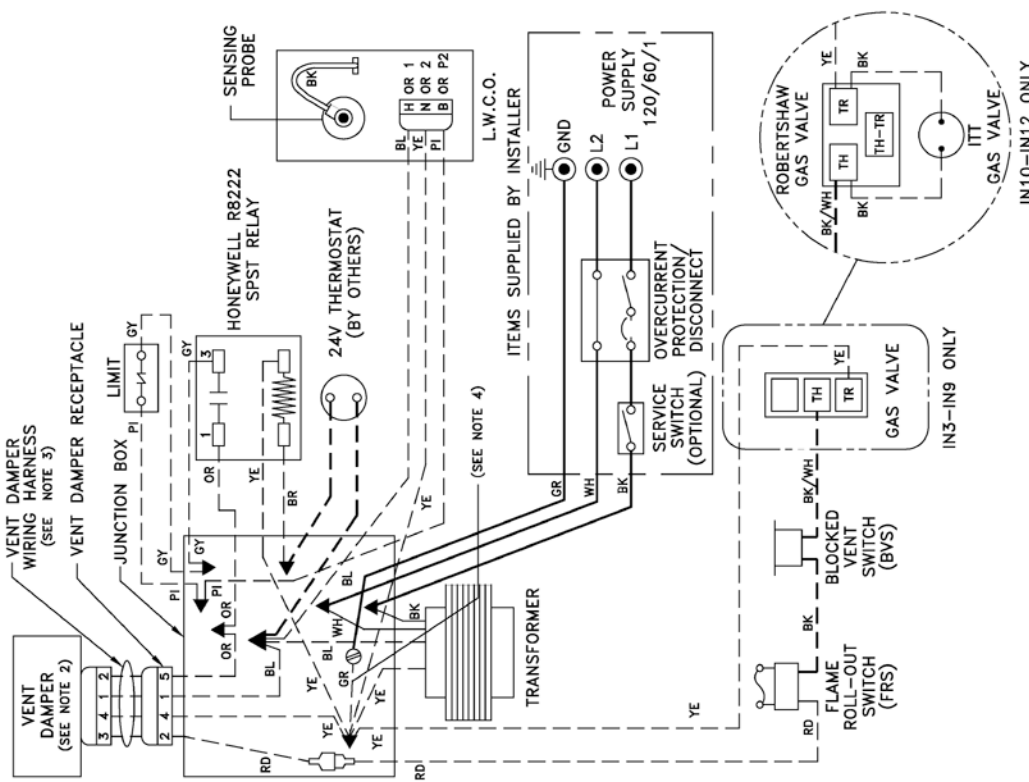

Figure 35: Wiring Diagrams, Steam, Continuous Ignition (Standing Pilot), Probe Low Water Cutoff
H. Steam Boiler with Continuous Ignition (Standing Pilot) and Probe Low Water Cutoff. See Figure 35.